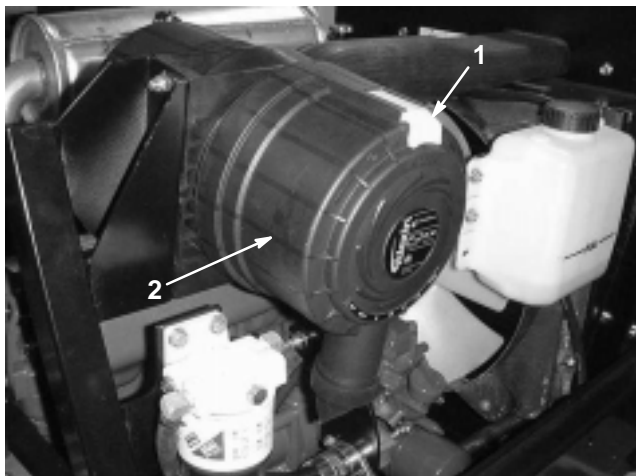

Figure 24
Service the air cleaner filters when the air cleaner indicator (Fig. 24) shows red or every 400 hours (more frequently in extremely dusty or dirty conditions). Do not over-service the air filter.
1. Pull the latch outward and rotate the air cleaner cover counterclockwise. Remove the cover from the body (Fig. 24). Clean the inside of the air cleaner cover.
8. Reset the indicator (Fig. 24) if it shows red.